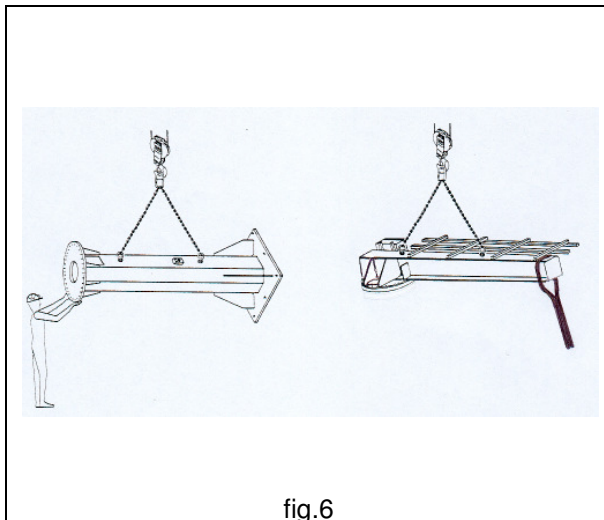

fig.6
- The steel structures of the jib crane (column or bracket or arm) are, generally, supplied without packing; on the columns and brackets there are hooking points to make moving easier during the operations of installation (fig.6).